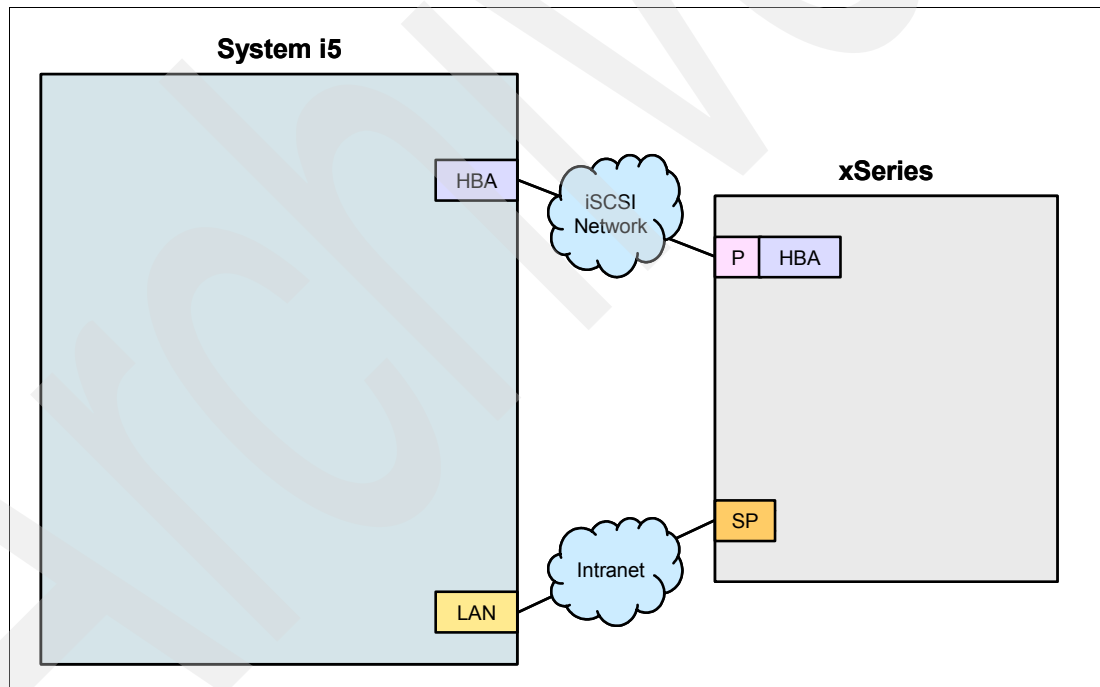
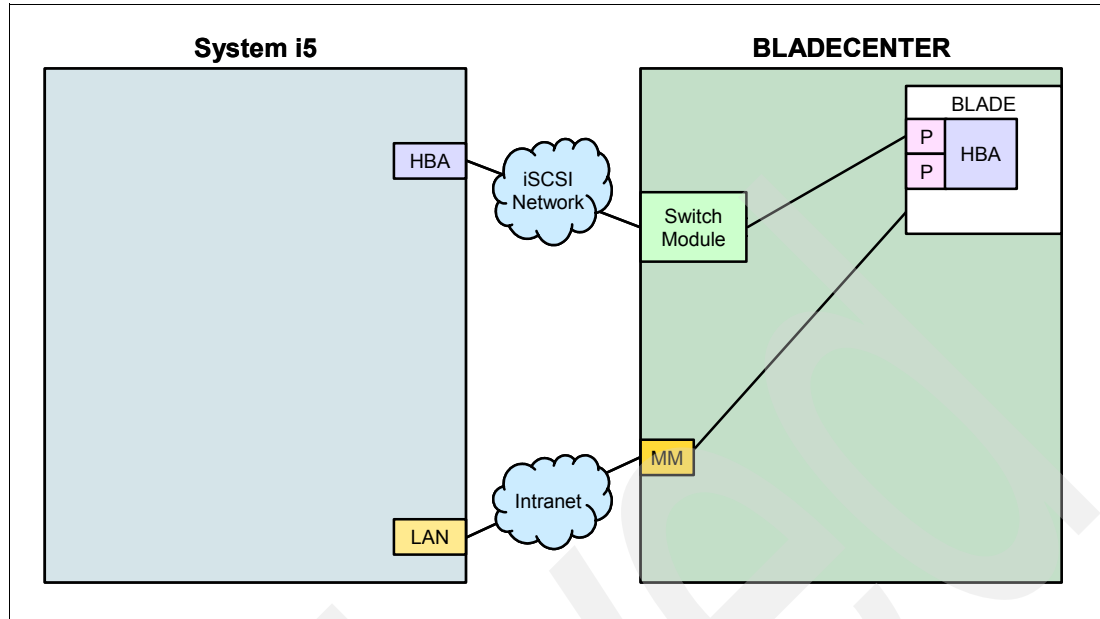
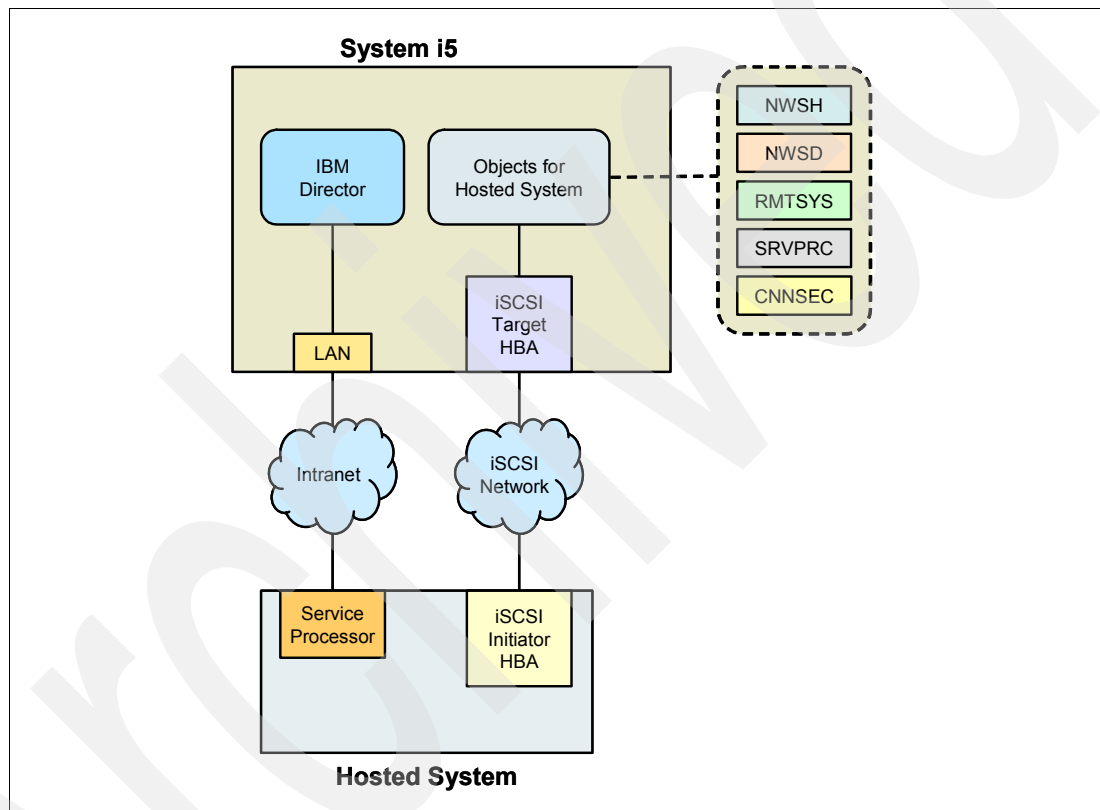
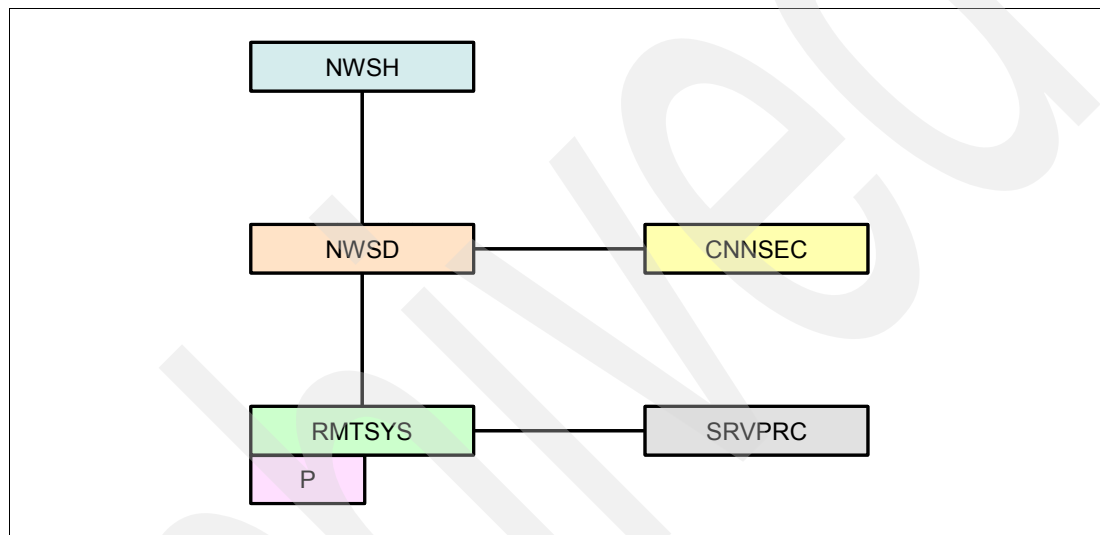

Figure 2-8 Basic iSCSI configuration: xSeries
Figure 2-9 Basic iSCSI configuration: Blade server
Figure 2-10 Objects for a single hosted server
Figure 2-11 Object relationships for a single hosted server - 1
An example of a basic iSCSI connection between an i5/OS partition and a hosted xSeries server is shown in Figure 2-8.
Figure 2-8 shows a connection between a single target HBA in the i5/OS hosting partition and a single initiator HBA port in an xSeries server across an iSCSI network.
The equivalent of Figure 2-8 for a Blade server is shown in Figure 2-9 on page 18.
Note that in Figure 2-9, only one initiator HBA port is active because there is only one switch module installed in either bay 3 or 4. Therefore, the second initiator HBA port is not available.
It also shows a connection between an Ethernet LAN adapter in the i5/OS hosting partition and the service processor in an xSeries server. Note that the target HBA and LAN adapter shown in Figure 2-8 on page 17 must be in the same i5/OS partition.
Two distinct networks are illustrated in Figure 2-8 on page 17 and Figure 2-9.
In Figure 2-10, we see the i5/OS objects that you need to configure in order to install the basic iSCSI configurations shown in Figure 2-8 on page 17 and Figure 2-9 on page 18.
Figure 2-10 shows that there are five different i5/OS objects that describe a basic iSCSI connection between an i5/OS hosting partition and a hosted xSeries or Blade server. They are:
The relationship between the objects for the basic iSCSI configuration shown in Figure 2-10 on page 19 can be represented by Figure 2-11.
Figure 2-11 is a very important diagram, because it demonstrates the fundamental relationships between the objects that make up a hosted server connected to an i5/OS partition over an iSCSI network. We use variations of this diagram to describe the more complex configurations covered in Chapter 9, “Scaling your iSCSI network” on page 325.
You should memorize Figure 2-11.
Note the following important points shown in Figure 2-11:
- The “P” attached to the RMTSYS object in Figure 2-11 represents the iSCSI boot port on an initiator HBA. The boot port is not a separate object; it is specified in the RMTSYS object. However, we show the boot port, because it is important when we begin to describe the various ways you can scale the System i5 iSCSI network.
The network server description (NWSD) object is basically the same as described for Figure 2-11 on page 20, except for the following:
The network server host adapter (NWSH) device description object shown in Figure 2-11 on page 20 represents the iSCSI host bus adapter (HBA) that is used by the iSeries side of the iSCSI connection:
A remote system network server configuration (NWSCFG type RMTSYS) object (shown in Figure 2-11 on page 20) represents the iSCSI attached xSeries or IBM BladeCenter server:
A service processor network server configuration (NWSCFG type SRVPRC) object (shown in Figure 2-11 on page 20) represents the xSeries service processor or the IBM BladeCenter management module: